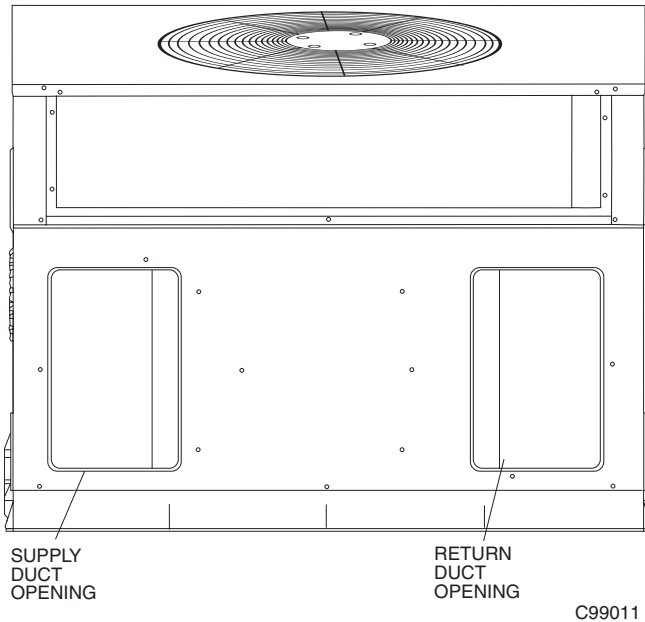

Fig. 9—Supply and Return Duct Opening
The flue hood assembly is shipped in the return section of the indoor blower compartment (See Fig. 9). Remove the return duct cover to locate the assembly.
2. Remove flue hood from shipping location (inside the return section of the blower compartment—See Fig. 9). Place vent cap assembly over flue panel. Orient screw holes in vent cap with holes in the flue panel.
3. Use a screwdriver and hammer to remove the panels in the bottom of the unit base (See Fig. 9 & 10).